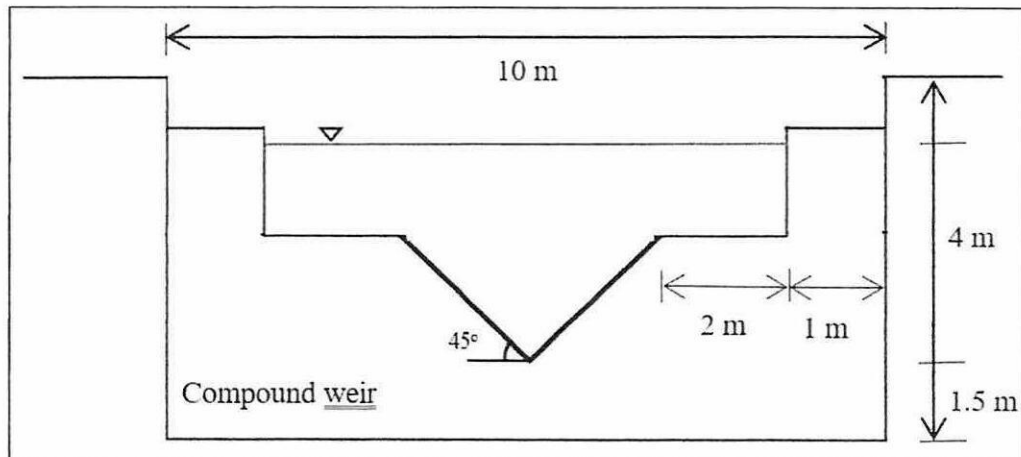

Figure Q3.1
- (d) A compound weir (**Figure Q3.1**) is installed at a 10 m-wide rectangular channel section. Considering the coefficient of discharge of 0.60.